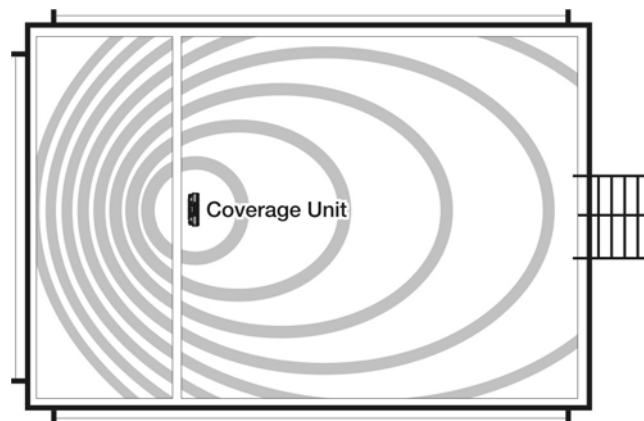

Figure 2.9: Back and front coverage pattern
When mounting the CU on a ceiling, the unit should be positioned in the middle of the area to be covered side-to-side, and off-centered front-to-back. Figure 2.9 shows the coverage area when the CU is mounted closer to the center of room or if mounted on a typical interior drywall partition. The back coverage area is reduced further if the partition wall is constructed of a dense material such as concrete or brick.
- the Auxiliary CU should be positioned in the middle of the coverage area, side-to-side, and off-centered slightly front-to-back, approximately as shown in Figure 2.9.
- the CU should be positioned in the middle of the coverage area, side-to-side, and off-centered slightly front-to-back, approximately as shown in Figure 2.9.